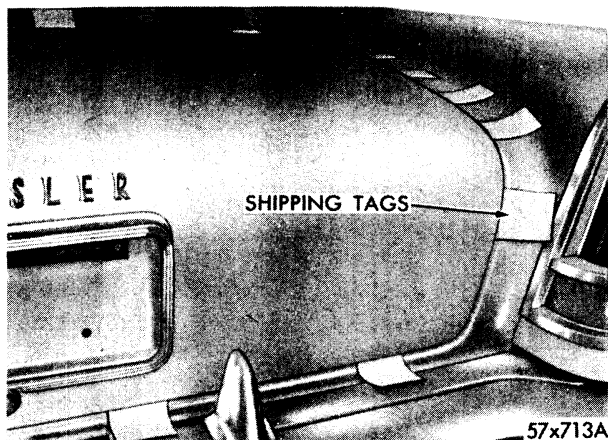

Fig. 40—Checking Seal of Deck Lid
k. Checking for a Correctly Fitted Deck Lid (Fig. 40)
A correctly fitted deck lid is one that is centered in opening, and fits flush with body panels. A check for proper fitting and seal of deck lid can be made with strips of paper. Insert strips of paper (about an inch wide) along edge of deck lid opening, close lid. (See Fig. 40). If papers fit snug all along edges of lid as they are pulled out, a good seal is evident.